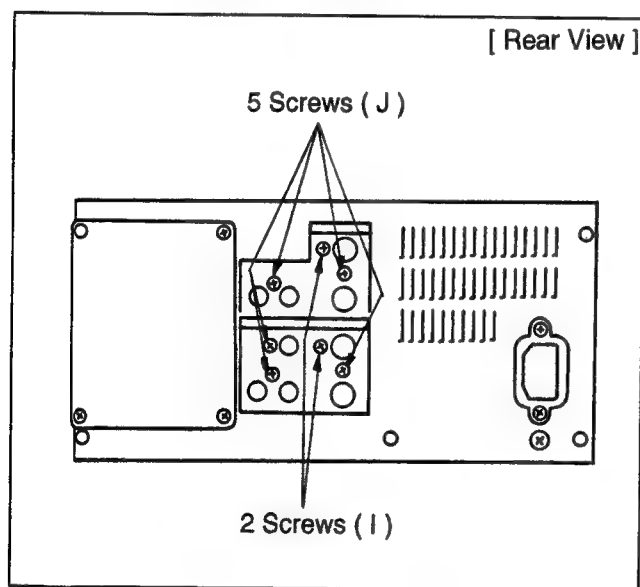

Figure D8
1. Unscrew the 5 screws (J) and unscrew the 2 screws (I) as shown in Figure D8.